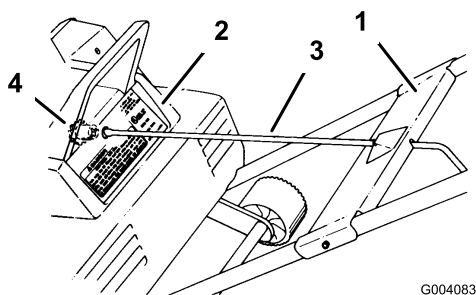
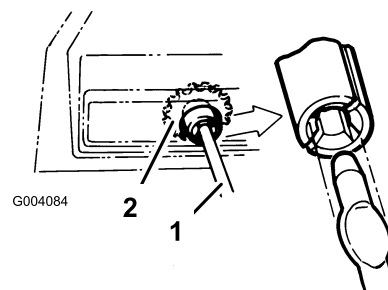

Figure 3
Figure 4
6. Place the mounting plate over the tubes (Figure 3).
9. Turn the chute crank rod slowly until the flattened end drops into the slot in the gear, then firmly push the chute crank into the gear until it snaps into place (Figure 3 and Figure 4).